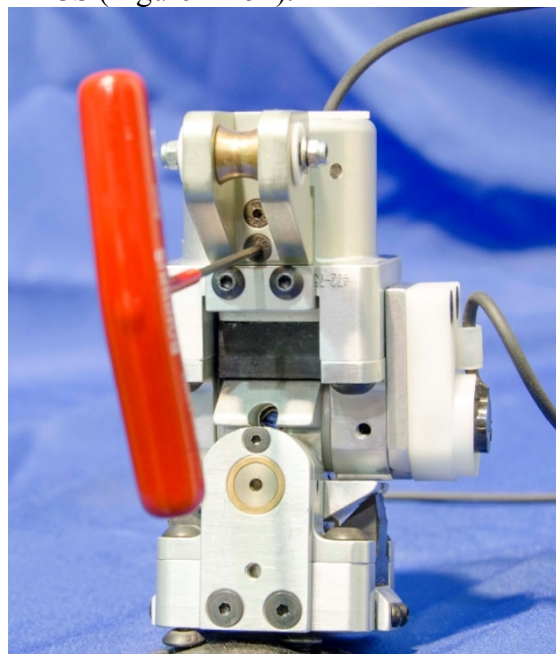

Figure 12-52. Attach Achilles pulley bracket to ankle
- 12.2.2.34 Attach the Achilles pulley bracket assembly to the ankle assembly using two M3 x 12 FHCS (Figure 12-52).